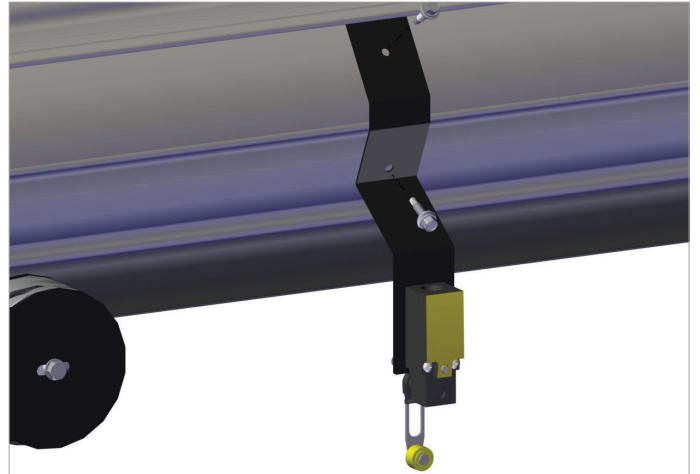

Fig. 5.3.8 Mounting the limit switch bracket
- Mount the stop bracket 200 mm (8 in.) from the end of the rail using self-tapping screws 6,3 x 25. Refer to fig. 5.3.8.
- Mount the limit switch bracket 25 mm (1 in.) next to the stop bracket self-tapping screws 6,3 x 25. Please note that the rubber bumper on the crab should almost hit the stop bracket when the limit switch is activated. Refer to fig. 5.3.8.